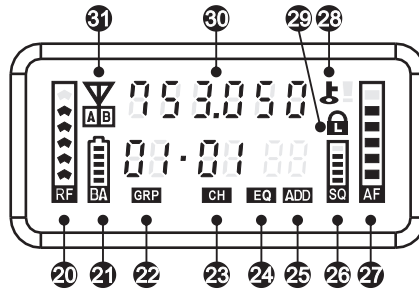

Fig. 8
1. VFD Screen displays functions and parameters, Fig. 8: